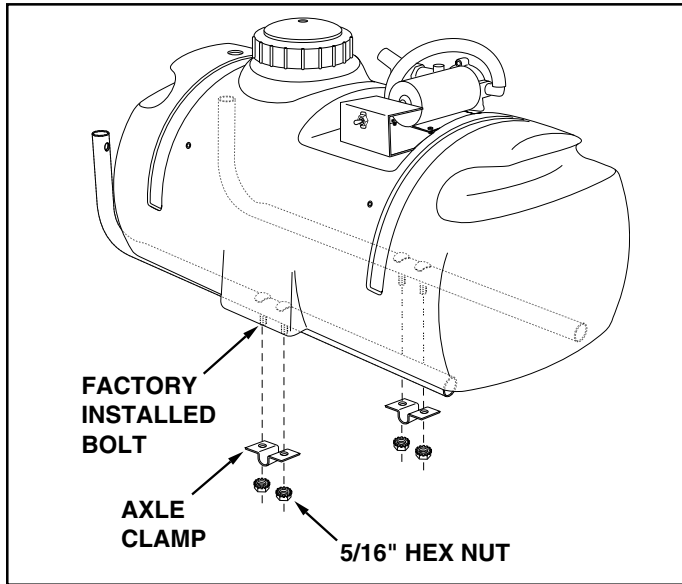
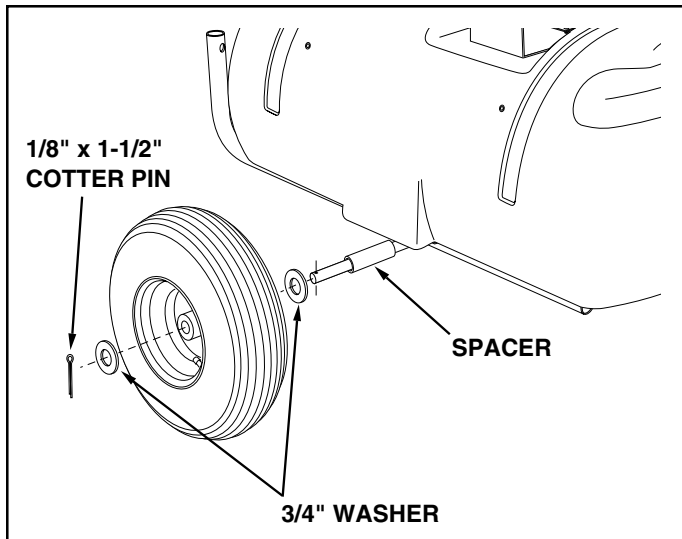

FIGURE 1
FIGURE 2
Your sprayer carton contains parts as shown in figure 1. The hardware package contains parts as shown in figure 2. Identify all parts and layout as shown in figures 1 and 2.
2. Assemble the axle clamps and four 5/16" hex nuts to the factory installed bolts in the frame tubes. **Do not tighten yet.** See figure 1.
3. Slide the axle through the two axle brackets. See figure 2.
4. Assemble a spacer, a 3/4" washer, a wheel (valve stem facing out) and another 3/4" washer onto the axle. Assemble a cotter pin through the end of the axle. Repeat on other end. See figure 2.
5. **Tighten** the four nuts which fasten the axle clamps to the frame tubes. Refer back to figure 1.